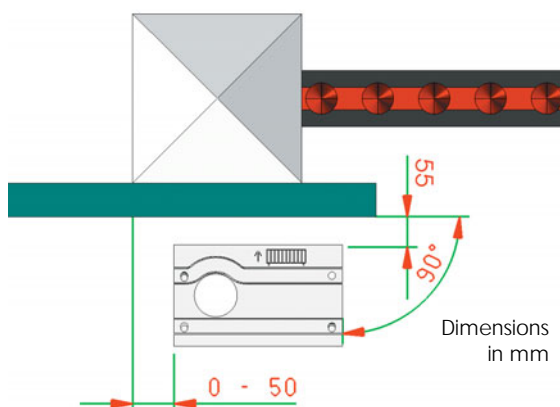

Fig. 6
2. The foundation plate must be located as shown in Fig. 5 (right closing) or Fig. 6 (left closing) to ensure the rack and pinion mesh correctly.